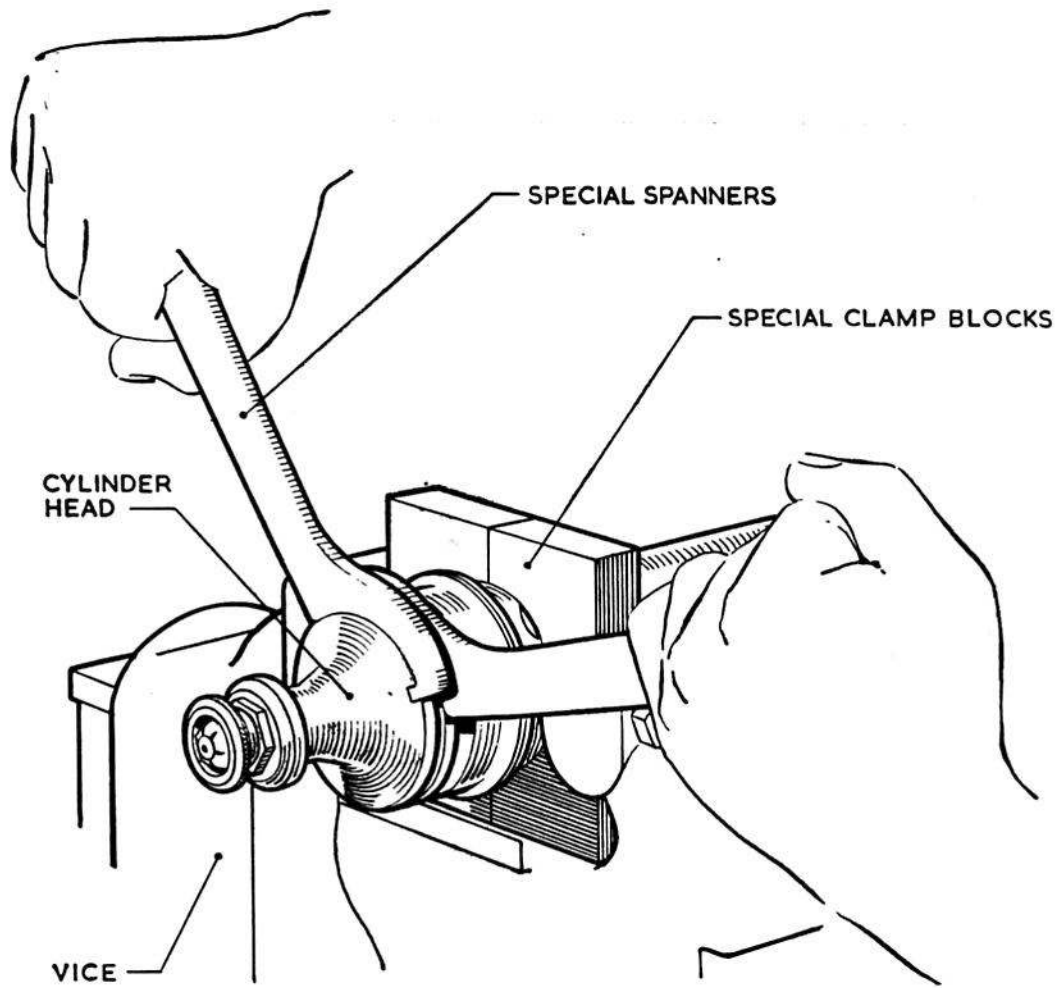

Fig. 7. Removing cylinder head
- (2) Remove the cartridges.
- (3) Loosely replace the covers to exclude dust.
8. (1) Grip the cylinder tube in the special clamp blocks (fig. 7), remove the locking wire and unscrew the cylinder head, using the special C-spanners provided. Do not remove the end cap from the cylinder tube.